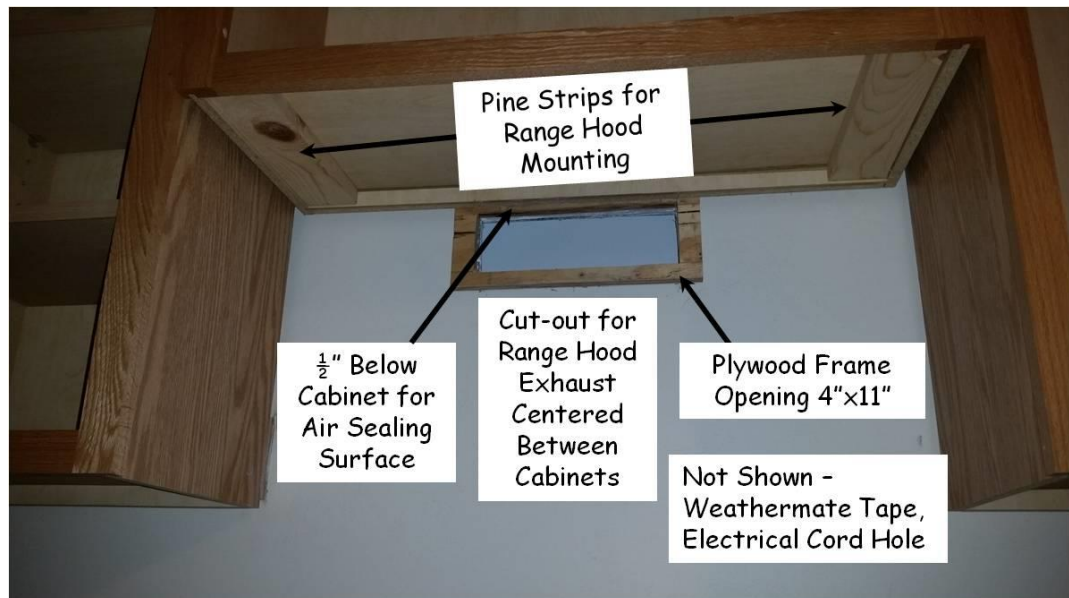

Figure 17-3. Range Hood Mounting Frame.
8. Cut out the sheetrock on the lines from above and remove. Be sure the top edge of the cutout is at least ½" below the bottom of the cabinet to provide for an air sealing surface. See Figure 17-3.